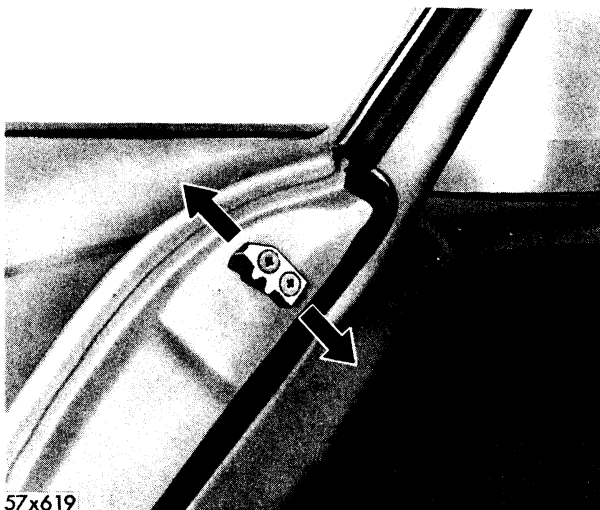

Fig. 152—Tail Gate Lock Striker
**NOTE:** If additional fore and aft adjustment is required at top of tail gate adjust lock strikers (Fig. 152).
Remove glass run channel. Remove three attaching screws and door latch. When installing door latch make sure it is properly aligned with striker. (Fig. 152)